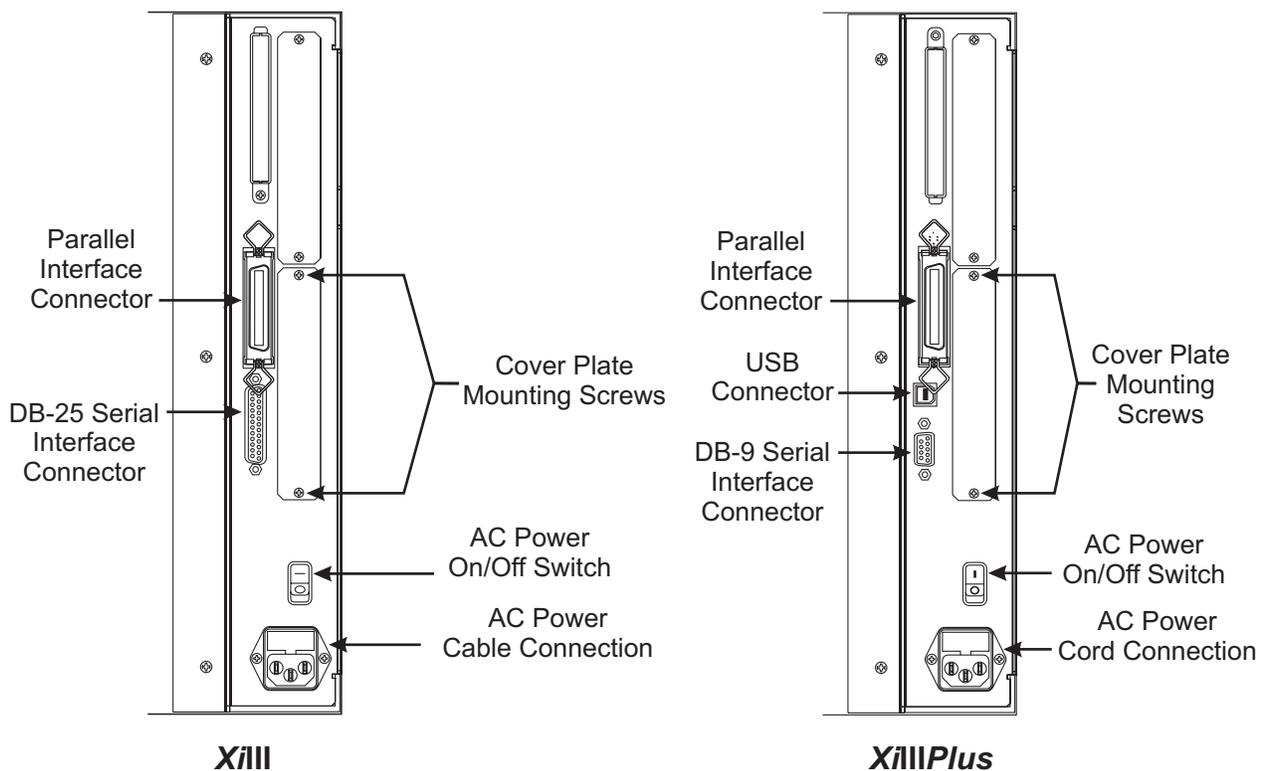

Figure 6-20. Rear View
1. Refer to RRP No. 1 on page 4-13. Turn the power Off (O) and disconnect the AC power cord. Disconnect any data cables.
3. Refer to Figure 6-20. At the rear of the printer, remove and retain the two screws and the blank cover plate or existing interface board positioned next to the main RS-232 and parallel interface connectors.
1. Refer to RRP No. 1 on page 4-13. Turn the power Off (O) and disconnect the AC power cord. Disconnect the data cable.